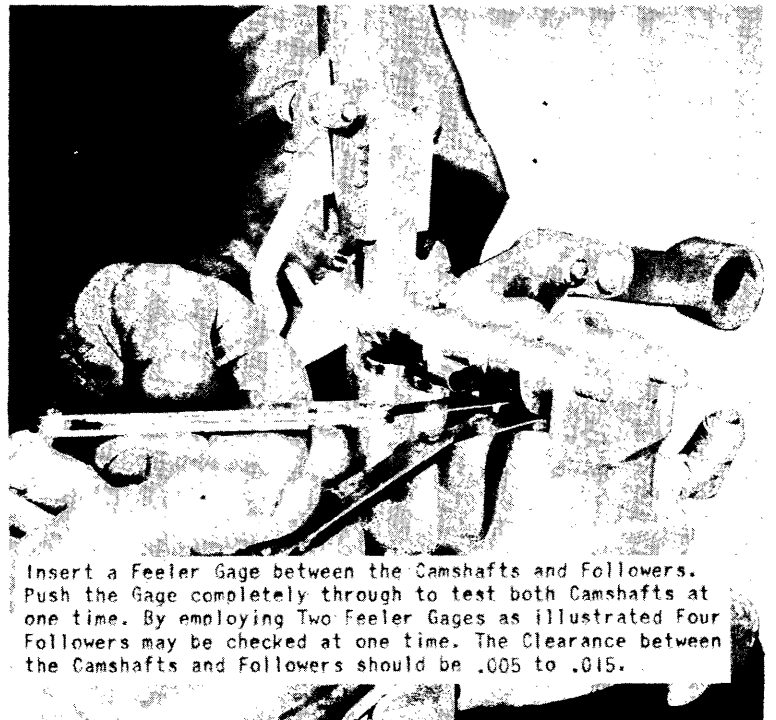

Figure 140 - Testing Clearance of Camshafts and Followers
(1) General. - Before assembling the control valve note that all passages are free of grit, dirt, or other foreign matter. Clean the valve body and all parts with alcohol and blow out with compressed air, if available.
(2) Assemble the valve, reversing the procedure outlined in a.(1) through (17).
(3) When assembling the valves in the valve body it is extremely important that each valve is replaced in its proper location as all valves are lapped into the respective seats on the original installation. If new valves are installed they too must be lapped into their seats.
(4) Be sure that the proper gasket and shims are installed below each follower.
(5) When the valve is completely assembled check the clearance of the camshafts and followers with feeler gages. (See figure 140.) The clearance between camshafts and followers must be between .005 and .015.